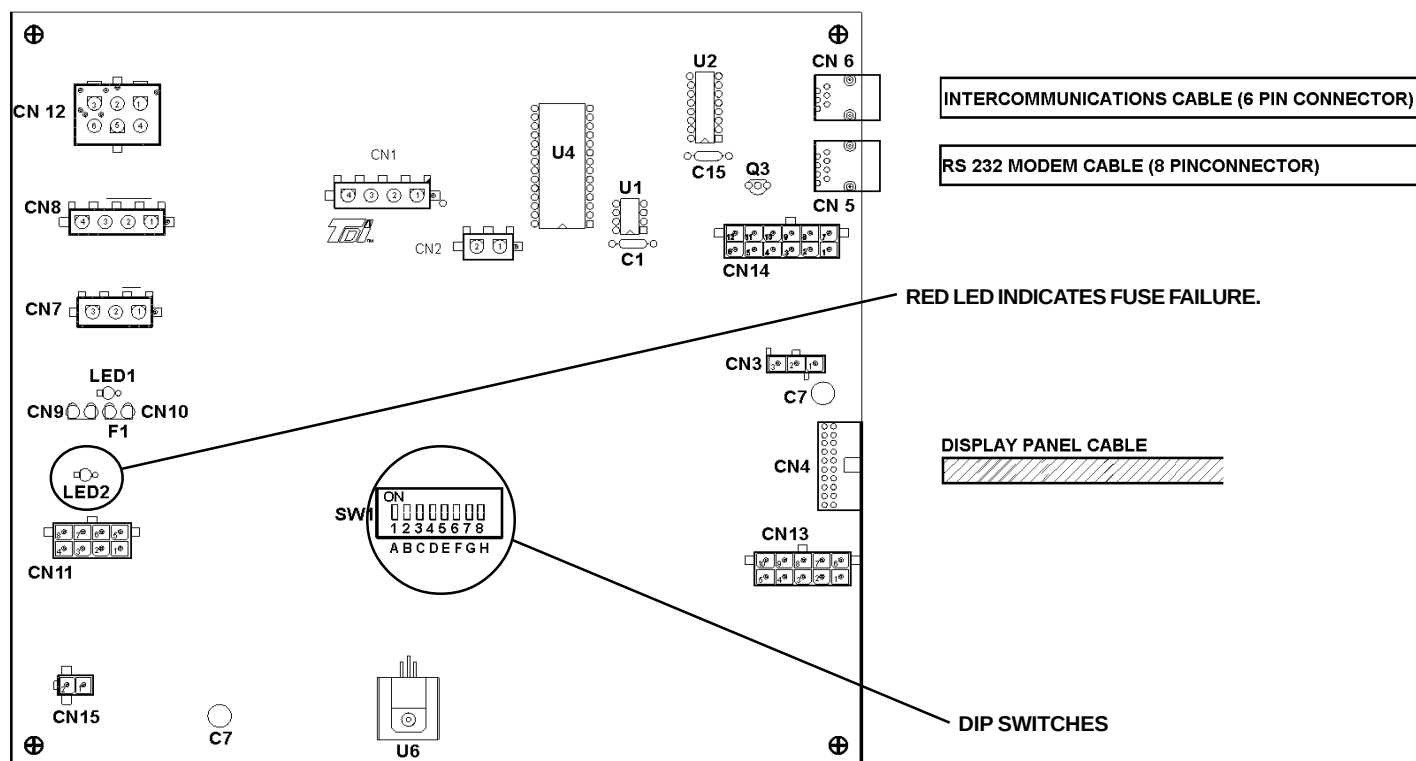

Figure 14. Central Control Board's Dip Switch Configuration and Options
The Central Control Board (CCB) is responsible for staging the Ignition Control Boards (ICB) and monitoring safety limit devices, control of circulation pump, power vent, alarm output and IRI gas valves (only on IRI models). The thermostat also resides on the CCB with inputs available for inlet, outlet and tank temperature probes as well as an input for a remote 24VAC thermostat. The CCB has a display interface which connects to the Display Board to show system status and failures. The CCB also has a set of DIP switches which allows the user to control several system parameters; see Figure 14.
position, it will show the temperature at the tank probe; see Figure 14. The push buttons on the Display Board allow the user to program and view several system parameters described in the following text. The Display Board is connected to the Central Control Board through a 6 conductor cable assembly with modular plug terminations. In addition, an 8 conductor modular jack on the Display Board allows for connecting a remote Display Board.
*Defaults to tank probe temperature when Dip Switch "D" on Central Control Board is Switched to the "ON" position; see Figure 14.
header and has two sets of wires embedded in it. The black wires sense the temperature at the probe. Their output is shown on the display screen when the "OUTLET" LED is illuminated. The red wires control the ECO (Emergency Cutoff) which shuts down the unit if the water temperature exceeds 250°F (121°C) and requires a manual reset of the boiler. The outlet probe functions as a automatically resettable high limit and is not considered a controlling probe on the boiler, which means it cannot be set to control the staging of the unit. Depending on the application of the boiler, the probe is set to one of two settings. In GW applications, the maximum Outlet Set Point is 210°F (99°C) and in GB applications it is 240°F (115°C). The outlet probe Set-Point can be adjusted between these two values using Dip Switch "F" on the Central Control Board inside the control box; see Figure 14.
The inlet probe is located on the right side of the Inlet/Outlet header. It has one set of blue wires embedded in it which senses the temperature at the probe. The inlet probe is considered a controlling probe and can be used to control the staging of the unit. The inlet probe Set-Point is fully adjustable between the factory set minimum value of 80°F (25°C) and a user controlled maximum value which will depend on unit's application. In GW applications, the maximum inlet Set-Point is 190°F (88°C) and in GB application it is 220°F (104°C). The inlet probe Set-Point can be adjusted between these two maximum values using Dip Switch "G" on the Central Control Board which is located inside the control box; see Figure 14.
A 24VAC thermostat/aquastat can be implemented as a system controller on Genesis units. The connection for such devices is located in the 24VAC junction box at the rear of the unit. A 24VAC thermostat/aquastat can only be used as an "On/Off" switch for the unit. The control of the staging will be through either the inlet or tank probe. To use a 24VAC system controller, dip switch "E" on the CCB must be switched to the "on" position; see Figure 14.